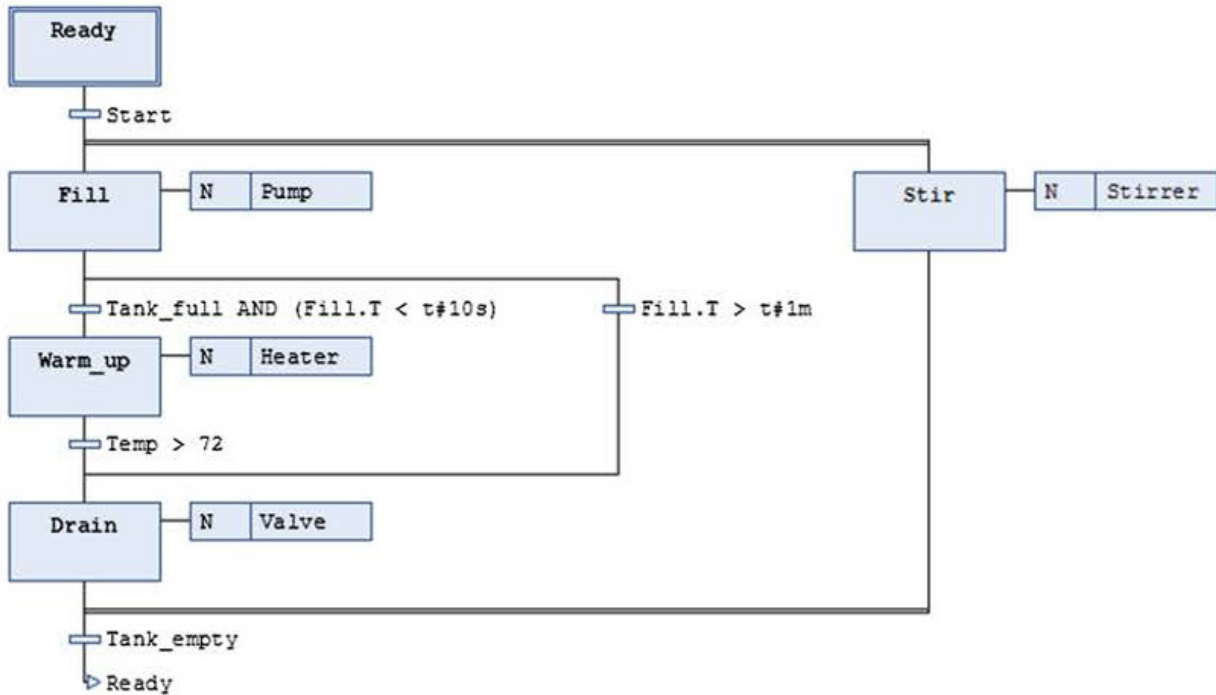

Figure 4: SFC with alternative branches
activated simultaneously and are terminated simultaneously. For this reason, there is a common transition condition before the place where the sequences diverge and one common transition condition immediately after the place where the sequences converge. be as shown in Figure 4. Note that the parallel sequences are activated by one and the same transition (**Start**) and that they converge before a common transition (**Tank empty**). Let us alter the SFC diagram in Figure 4 by making the following modification: We would now like to have the product mixture (the batch) warmed up after the tank is filled. Furthermore, we want the stirring to take place in parallel with filling, heating, and emptying. The result can be as shown in Figure 4. Note that the parallel sequences are activated by one and the same transition (**Start**) and that they converge before a common transition (**Tank empty**). Also note that parallel branches are executed independently of each other before they reach the convergence point. In order for parallel sequences to be deactivated, the following conditions must be satisfied:
- All the sequences must have reached their last step. (Both **Drain** and **Stir** must be active in Figure 4.)
- The transition after the convergence must be satisfied. (**Tank empty** must be TRUE in Figure 4.)